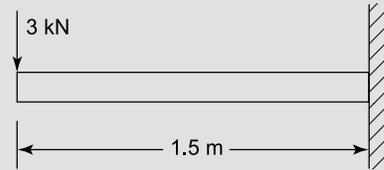

Figure 9.7
**Problem 3.** A cantilever beam, whose cross-section is a tube of diameter 0.2 m and wall thickness of 0.02 m, is subjected to a point load, at its free end, of 3 kN, as shown in Figure 9.7. Determine the maximum bending stress in this cantilever.
The maximum bending moment, namely  $\widehat{M}$ , will occur at the built-in end of the beam, i.e. on the extreme right of the beam of Figure 9.7.